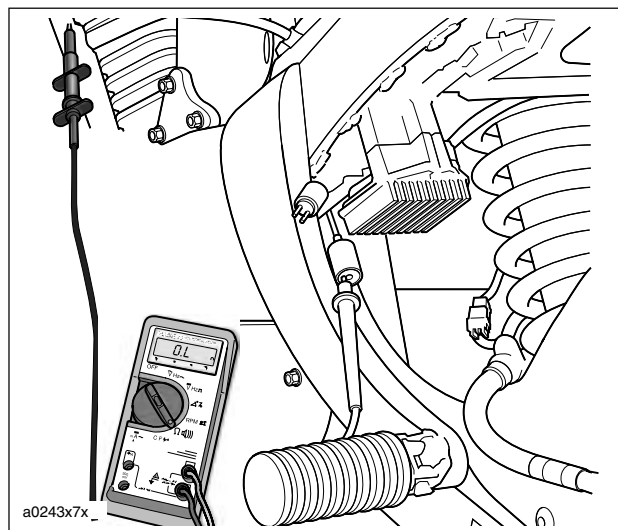

Figure 7-49. Test for Grounded Stator
2. See Figure 7-49. Connect an ohmmeter.